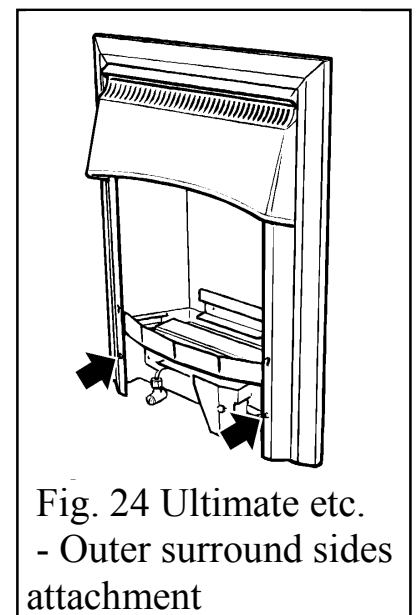

Fig. 24 Ultimate etc.
2. Secure the surround sides to the convection box brackets with the two screws provided. See figure 24.